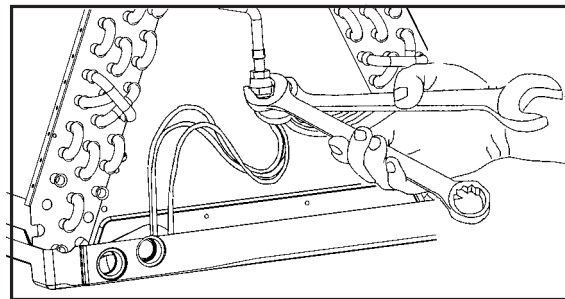

Figure 6. Wrenches on Distributor Body and Assembly Nut
1. Loosen the orifice body halves by applying two wrenches and squeezing them together as shown in Figure 6, to turn the assembly nut counterclockwise.